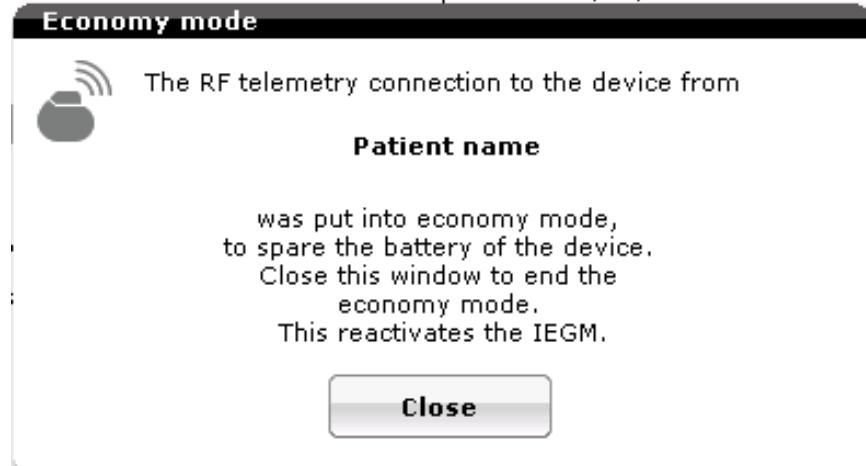

Figure 11: Economy mode message
When the Economy mode screen appears, the patient name will be displayed in the dialog box. In the example shown in Figure 11, "Patient name" appears. This message prevents potential confusion if more than one patient is in distance of the programmer.
- After 5 minutes without input, SafeSync Telemetry switches to the economy mode. In order to re-establish telemetry from the economy mode, select “Close” in the pop-up window with the patient’s name as shown in Figure 11. To conserve the device battery, consider closing the Economy mode box, which ends the Economy Mode, only when you will make a change in the programmer interface.